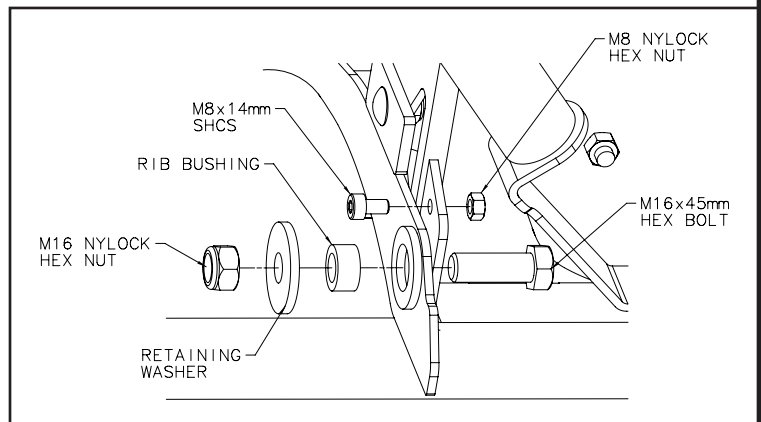

Figure 2
2. Remove the blade from the tube base by unscrewing the two bolts. See Figure 2.